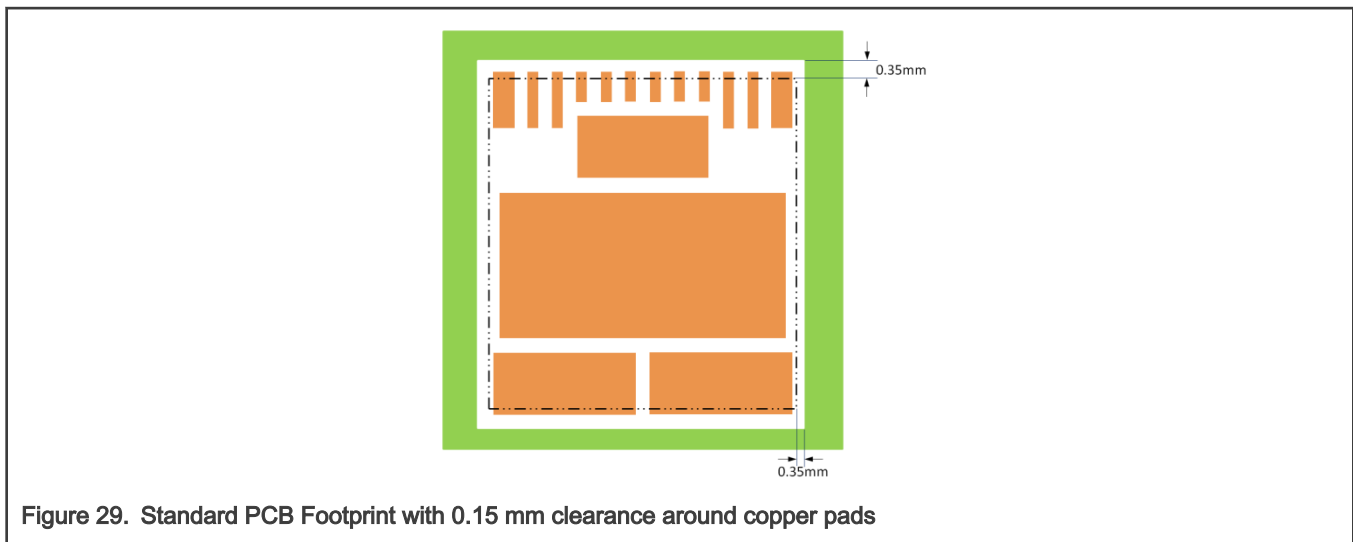

Figure 29. Standard PCB Footprint with 0.15 mm clearance around copper pads
- For the PCB exposed pad land pattern, it is recommended to design for solder mask pull-back from the copper pad edge. The clearance between the copper pad and solder mask should be at least 0.15 mm. Please see also Figure 29 on solder mask design concept.